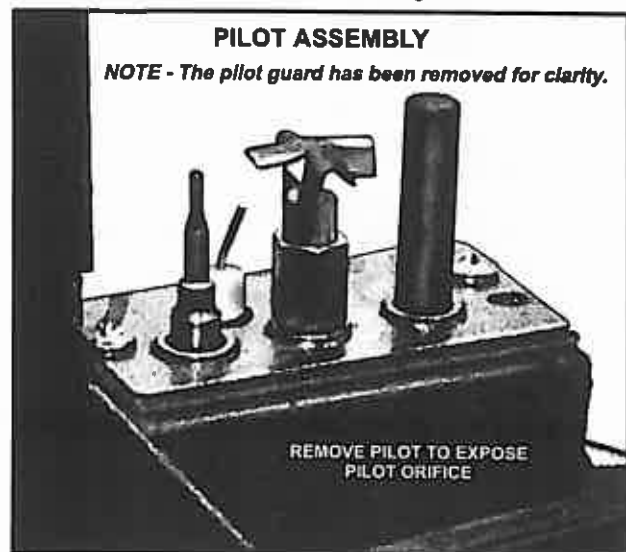

FIGURE 6
- Carefully regard the position of the pilot. (It must be returned to this exact position after the orifice has been replaced.) Use a wrench to remove the pilot from the pilot/sensor assembly. Replace the existing pilot orifice using the orifice provided in the bag assembly. Reinstall the pilot and make sure it is properly oriented. See figure 6.